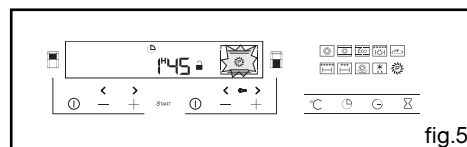

fig.5
If you click on the ① button during the pyrolysis, the symbol appears in the programmer indicating that the door is locked (fig.5).